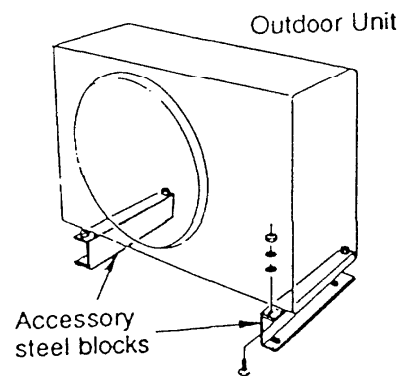

Fig. 5
- provide a solid base; concrete or concrete blocks, about 4" above ground level to reduce humidity and possible water damage in unit and decrease service life. Fig. 5